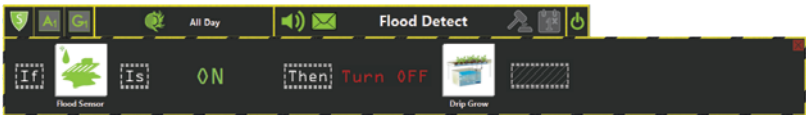

Figure 7 - Flood Detection Alarm Example
► In Figure 7 there's a representation of a security alarm programmed not only, to send a warning e-mail when the flood sensor is triggered, but also to turn OFF all devices from the drip grow. All automation procedures related to the area/grow in question will be halted until user validation, preventing the problem escalation.